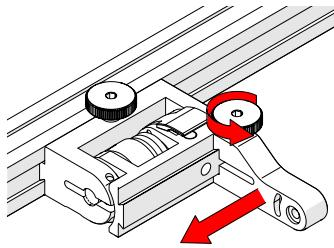

*Fig. 214 - Flip yoke and reverse arms*
3. Flip the yoke 180° and reverse the probe holder arms (*Fig. 214*).